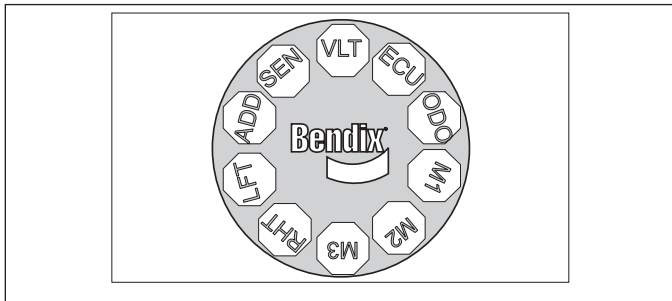

Figure 11 – The Bendix® TRDU Tool Display
If the ABS ECU has at least one (1) active DTC, the TRDU tool displays the first DTC by illuminating the red LEDs, indicating the malfunctioning ABS component and its location on the vehicle. See Figures 11 and 12.